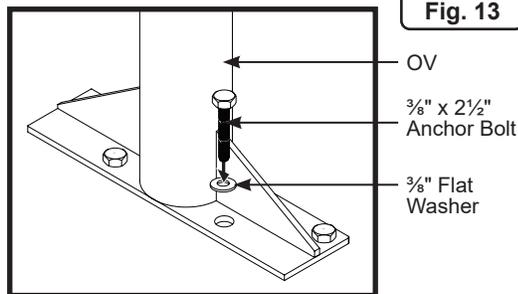

Fig. 13
5. Place the OV back over the anchor holes and anchor it with four 3/8" x 2 1/2" anchor bolts and flat washers (Figure 13).